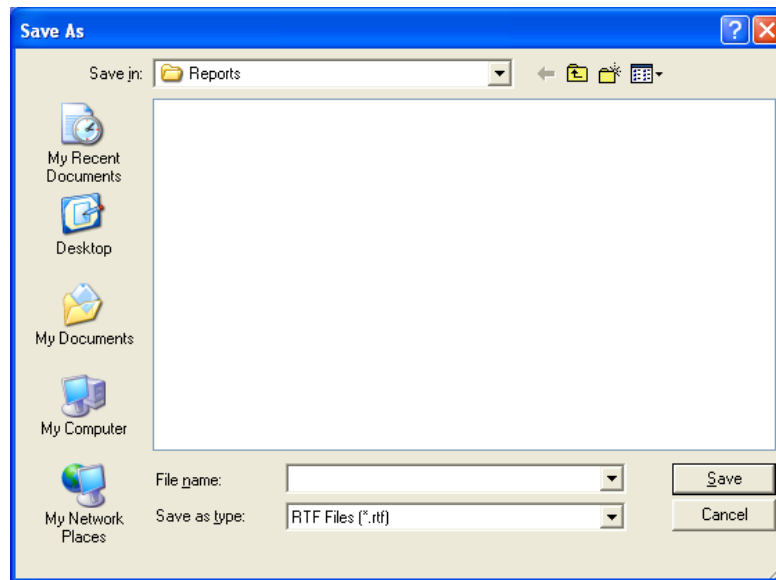

Figure 11-25
- To save the report displayed on the screen, click the **Save to File** button or press *Alt+S*. The Save As box appears as shown in Figure 11-25. Reports are saved as a rich text format file (.rtf file) in the Captus3000\Reports\ directory by default. They can be opened in WordPad or MS Word.